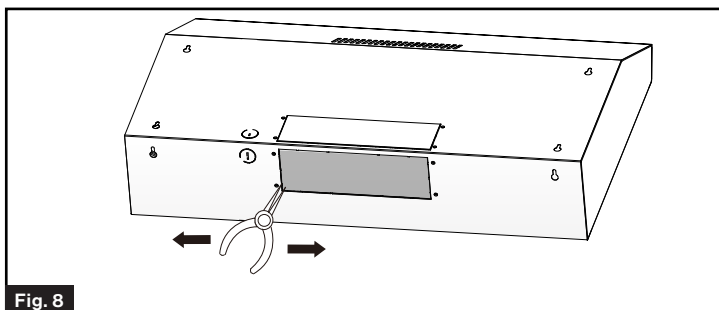

Fig. 8
1. Use pliers to find the seam from the edge of the rear opening and press in by left and right. (Fig. 8)